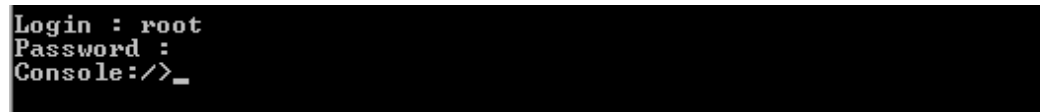

Figure 34: Console Prompt
3.	Press the ENTER key to launch the console prompt, shown in Figure 34.